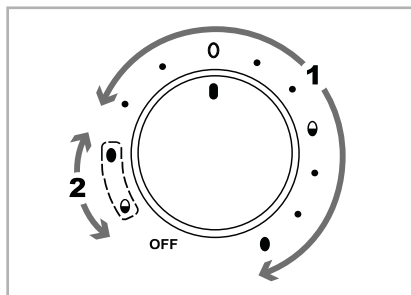

Fig. 1
- 1) Turn the control dial **9** to the position that corresponds to the desired hardness of the eggs. Use the setting range "1" (see fig. 1) with symbols and corresponding dots in front of it:
For the first cooking process, the setting range "1" with symbols and corresponding dots in front of it applies. For the second cooking process, the setting range "2" with symbols outlined by dashes applies (see fig. 1).
- 2) Set the control dial 9 to the position that corresponds to the softest degree of hardness of the eggs (the setting range "1" applies, see fig. 1). The control lamp 10 lights up and cooking begins.
- 5) Replace the lid **3** and turn the control dial **9** to the position of the symbols outlined by dashes (setting range "2", see fig. 1) corresponding to the desired hardness level for the eggs left in the appliance: